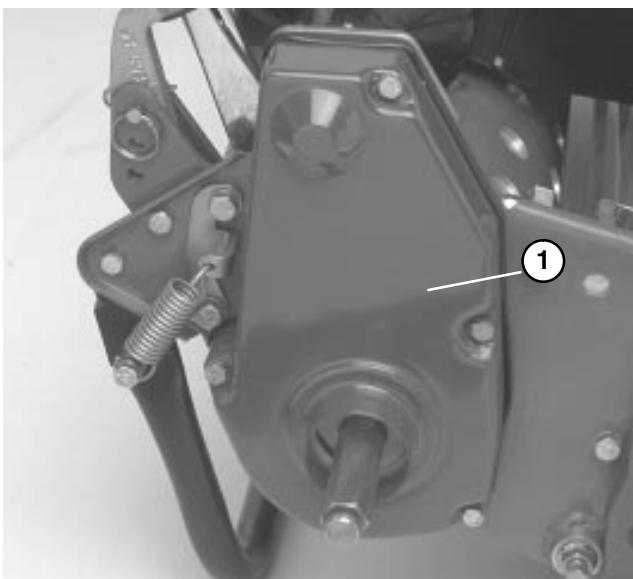

Figure 7
5. Remove rear belt cover from right side of machine (Fig. 7).